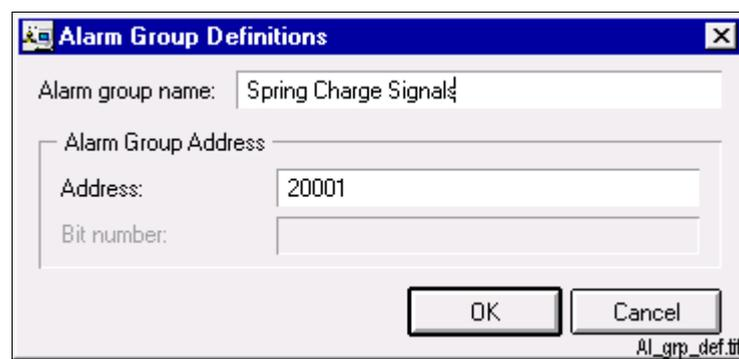

Figure 10. Alarm Group Definitions
- 1 Click **Add**. Alarm Group Definitions dialog appears. See Figure 10 below.